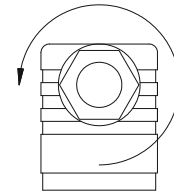

Fig. 9
- ✚ Loosen the screwed cable gland ⑤ M16x1,5 (⇒ Fig. 9).